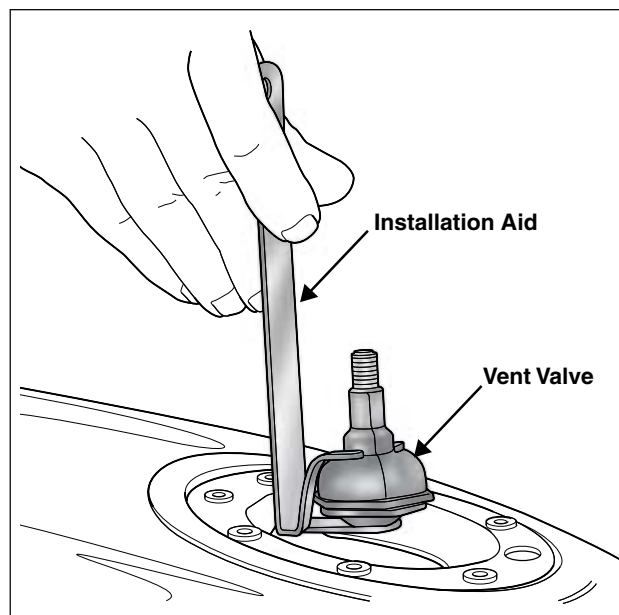

Figure 4-31. Installing Fuel Tank Vent
2. See Figure 4-31. Using the fuel vent valve installation aid, lower the fuel tank vent valve into the fuel tank through the fuel filler neck.